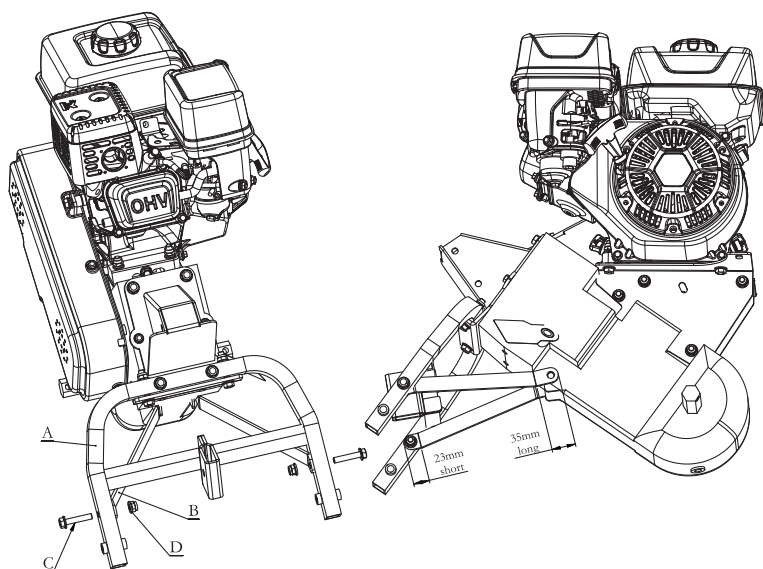

Fig. 2
Step 2 Assembly of the connecting plate (See Figure 2)
- Mount the short end of the connecting plate (B) on the inside of the wheel bracket (A) using 2p M8x40 bolts (C) and 2 M8 nuts (D);